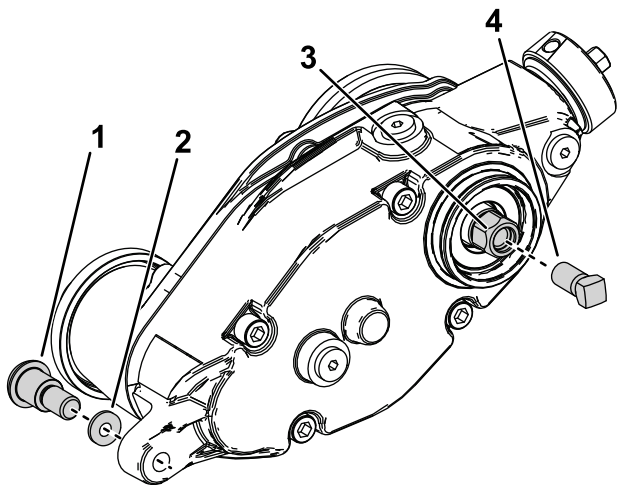

Figure 29
3. Remove the shoulder bolt and hardened washer connecting the groomer drive box to the adjuster arm (Figure 29).
5. Install the reinforcement screw (Part No. 1-803022—sold separately) to the internal threads of the groomer drive hex head and torque to 13.5 N·m (120 in-lb) as shown in Figure 29.
6. Remove the groomer drive box from the cutting reel by turning the groomer drive hex-head (Figure 29).